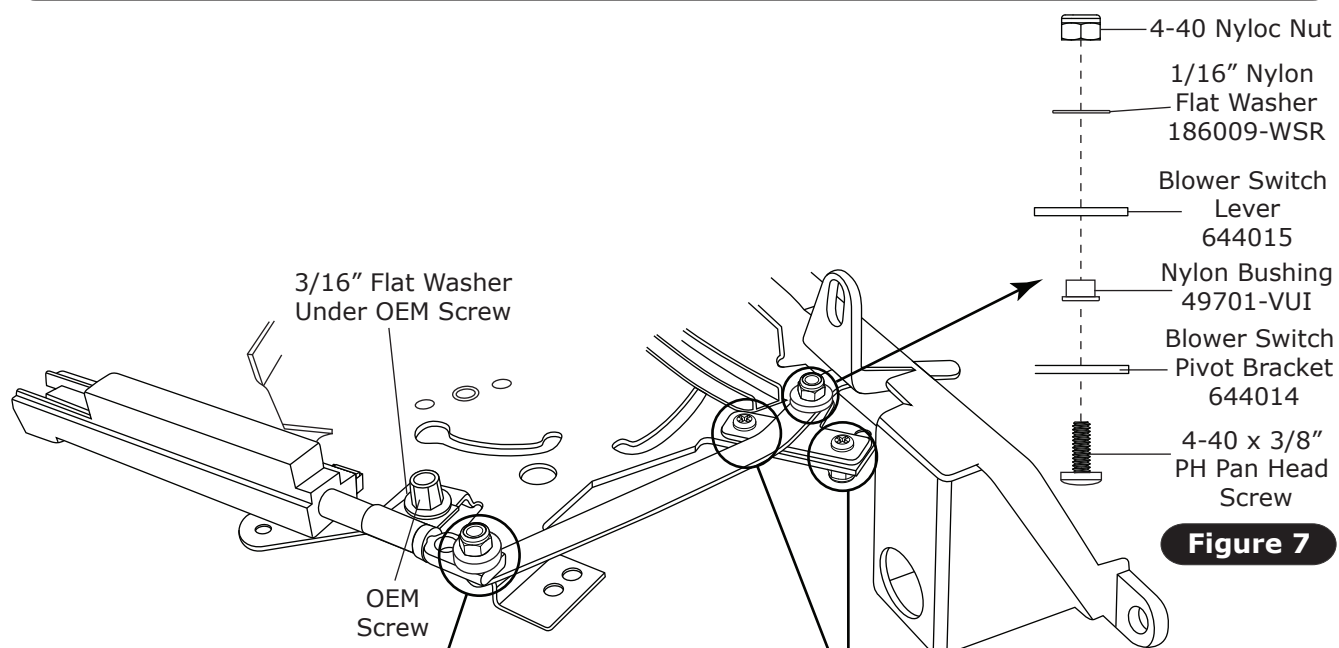

Figure 7
1. Install blower switch lever onto blower switch pivot bracket as shown in Figure 7, below.